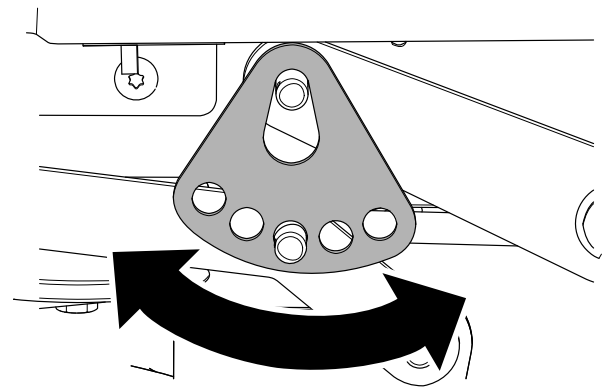

**Figure 64**
6. Remove the hairpin cotter and washer from the lower lift-arm pin (Figure 64).